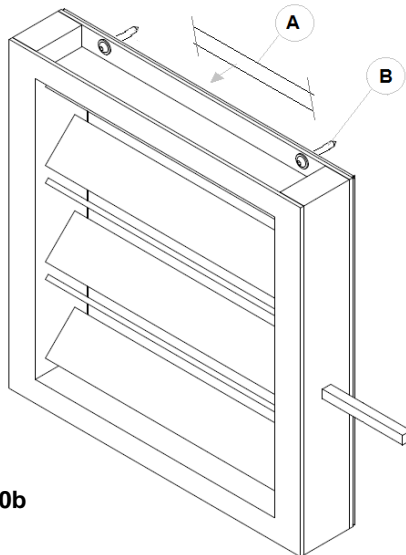

Fig. 10b
- Each damper is provided with holes on its coupling flange and supplied kit composed of adhesive perimetric gasket (A) and selfdrilling screws (B), as shown on **fig. 10b**.